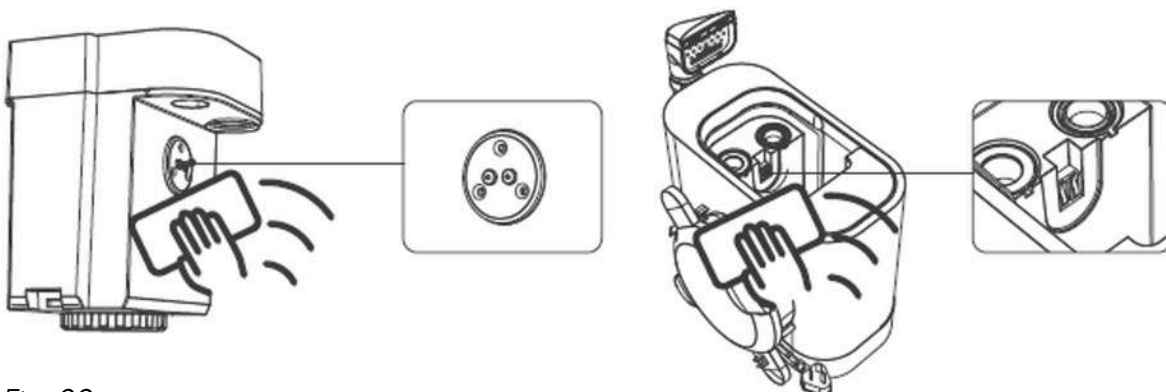

Fig. 22
5. If the appliance provides a audio prompt that the dirty water tank is full, but the dirty water tank is not full actually, which is a false alarm. At that time, the user shall remove the dirty water tank and clean the small metal post at the side of the dirty water tank and the metal plate corresponding to the main body. After cleaning, install the dirty water tank onto the appliance well (see Fig.22).